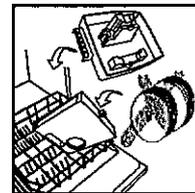

Fig. 45
- Place the tank and the basin in the dishwasher for cleaning or wash by hand with a mild detergent and water (Fig. 45).